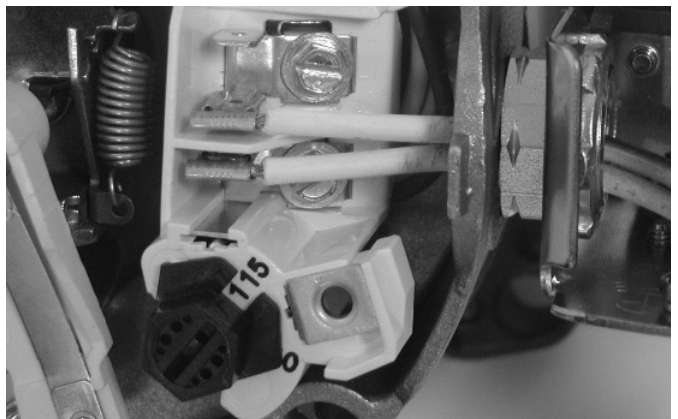

Figure 5: Voltage set to 115 volts, Dial Type
2. Turn the dial counter-clockwise until 115 shows in the dial window as shown in Figure 5.